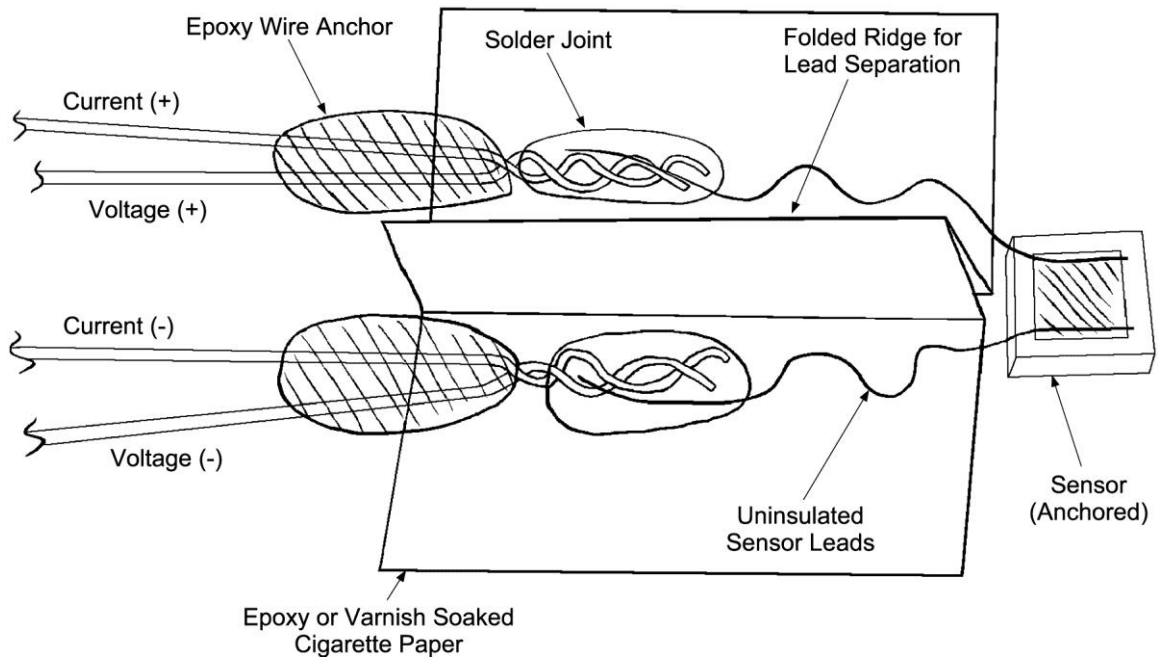

Figure 3. Cigarette Paper Insulator
2. Apply an insulating layer on the mounting surface if it is a conductor. The uninsulated sensor leads can be kept separate using small Teflon spaghetti or by making channels out of the cigarette paper, Kapton film, etc. used for the insulator. See Figure 3.